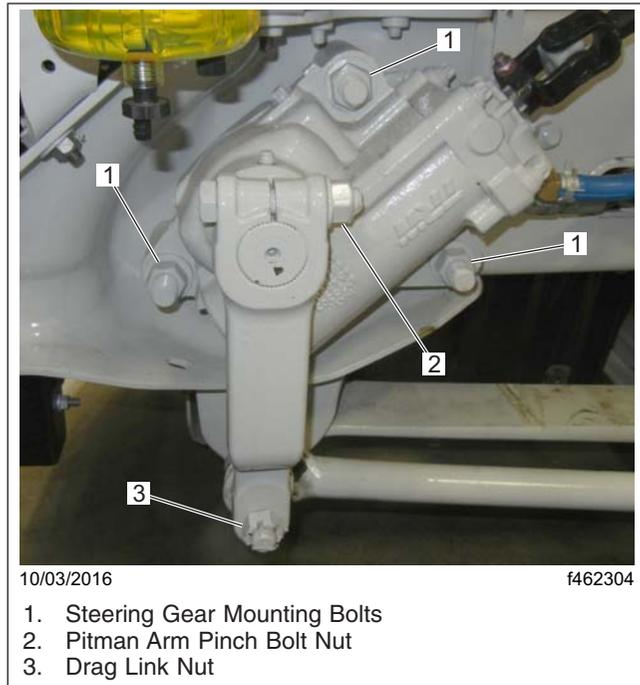

Fig. 25.13, Steering Gear Fasteners
- 6.2 Check the steering gear mounting bolts and pitman arm nut, if equipped, for signs of looseness. See **Fig. 25.13**.